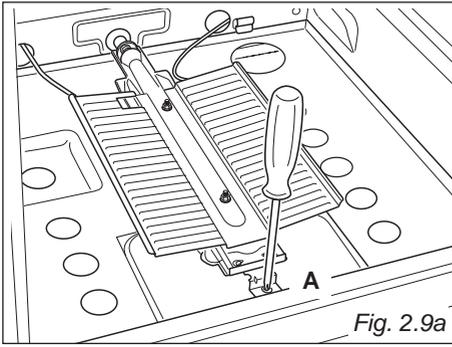

Fig. 2.9a
- Unscrew and remove the burner securing screw "A" (fig. 2.9a).